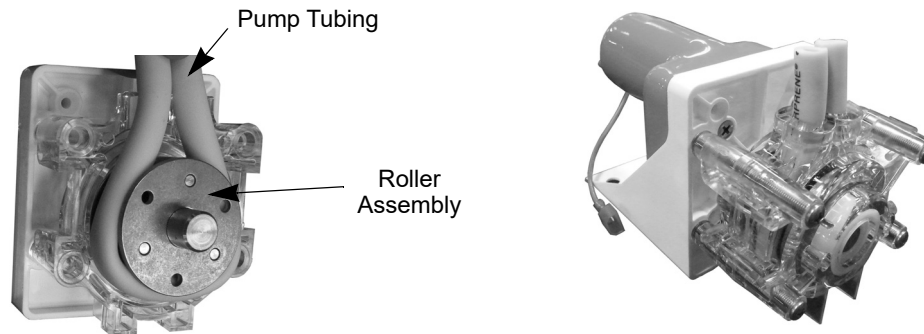

Figure 15. Pump Assembly
3. Remove **ONLY** the rear pump body half to reveal the pump tubing and rollers (See Figure 15).